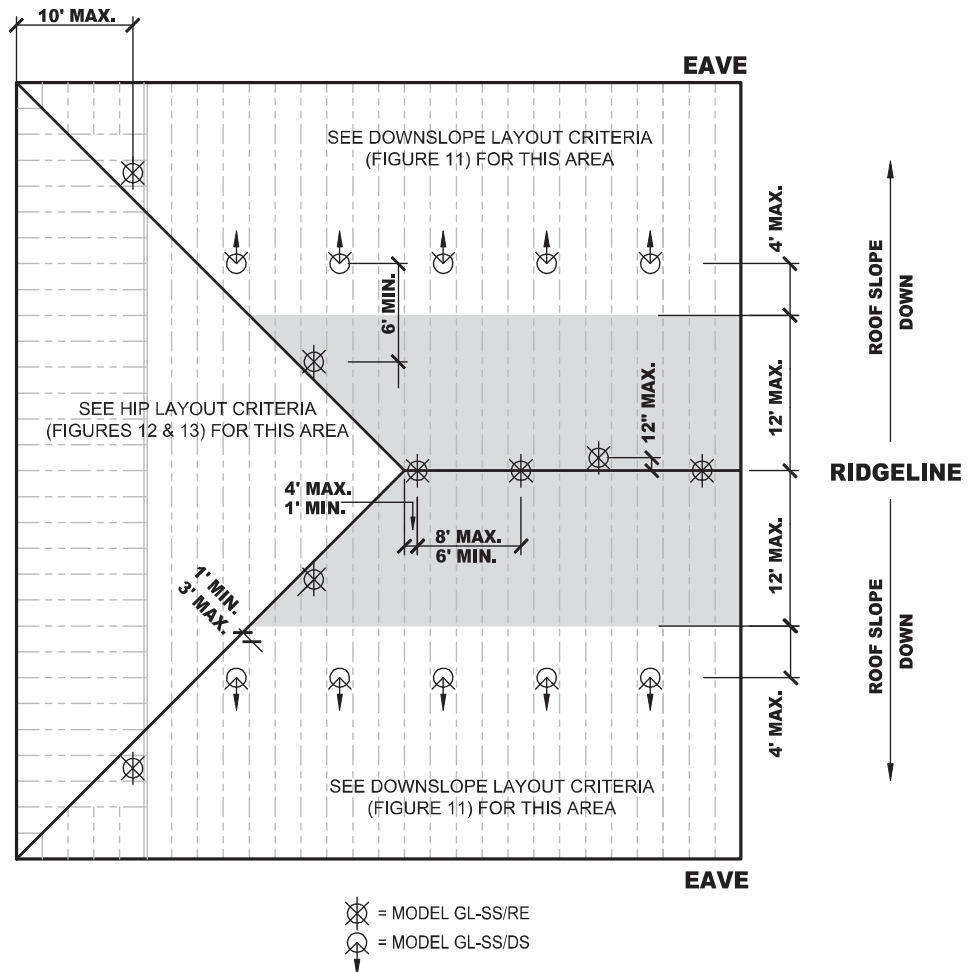
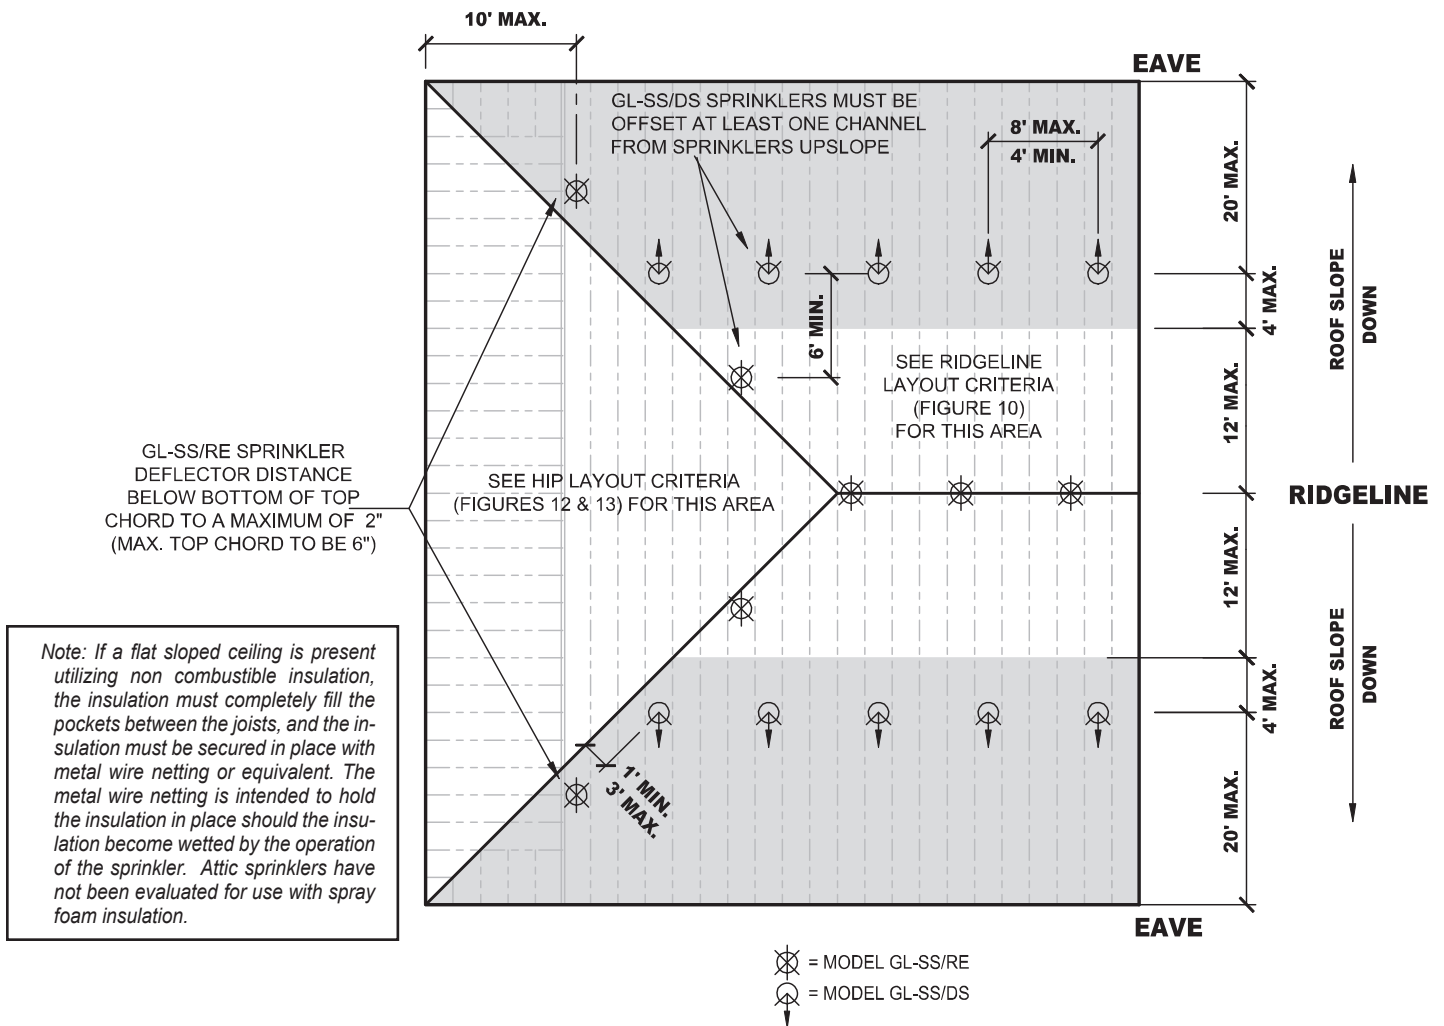

FIGURE 10: RIDGELINE LAYOUT CRITERIA
FIGURE 11: DOWNSLOPE LAYOUT CRITERIA
- These sprinklers are installed downslope from a ridge-line/peak (See FIGURE 11). Installed in the upright position with deflector parallel to roof deck (i.e. sprinkler centerline perpendicular to the roof slope).
- This approach utilizes the GL-SS/RE sprinklers at the Ridge line and downslope covering to the eave. (See FIGURE 10 for dimensional limitations)
- The maximum span of this approach is 72 ft or a half span of 36 ft. as measured horizontally. (See FIGURE 10 and FIGURE 11 for dimensional limitations)